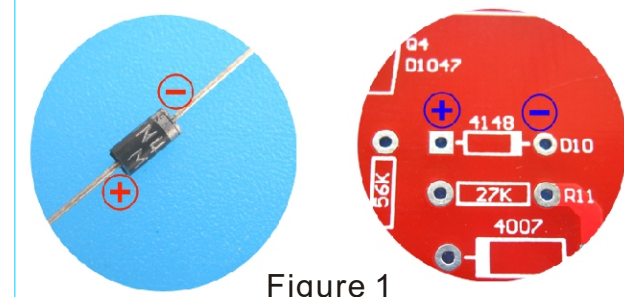

Figure 1
**4. Rectifier diode (Figure 1)**